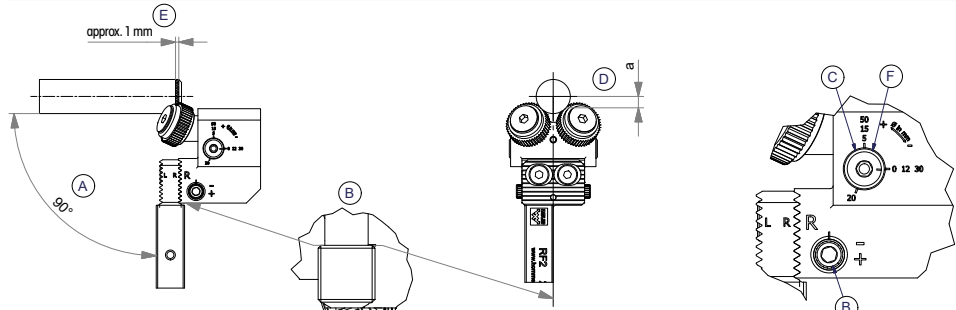
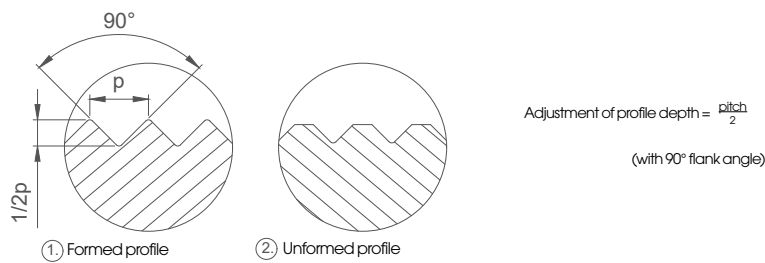

Fig. 4: 241 Swiss type turning lathe / Tool adjustment
Fig. 6: Different profile pattern
Produce a chamfer (30° – 45°) on the workpiece with a minimum width corresponding to half of the pitch of the knurling wheel on the start of the workpiece or after a plunge cut (cf. Fig. 4 + 5). The concentricity of the workpiece must be max. 0.03 mm.
The following points correspond to the processes in Figures 4 and 5 and must be followed for optimal adjustment and use of the tool.
Clamp the tool at an angle of 90° to the workpiece and align (Fig. 4 + 5, ref. A)
In the condition as delivered, the centre height is at the upper edge of the shank (Fig. 1, pos. 1; Fig. 2, pos. 1). However, if this must be adjusted, slightly loosen both locking screws (Fig. 1, pos. 13; Fig. 2, pos. 14) of the cutting head. Then adjust the centre height of the knurling head by turning the spindle (Fig. 1, pos. 6; Fig. 2, pos. 8). Observe the mark for the respective shank dimensions (Fig. 4+5, ref. B). Then tighten the locking screws.
241 Swiss type turning lathe (Fig. 4):
- The clearance angle and the diameter to be machine can be increased by turning the spindle (Fig. 1, pos. 5) anticlockwise. In the process, the scale value corresponds to the adjusted diameter. (Example: 320° rotation anticlockwise = adjusted Ø 3 mm; 720° rotation clockwise = adjusted Ø 12 mm, based on the zero position) (Fig. 4, ref. C)
The following formula can be used as a rough guideline for the approach position of the tool in X-direction. This depends on the workpiece diameter to be machined and knurling wheels which are used (Fig. 4+5, ref. D).
The profile depth is set approx. 1 mm behind the chamfer of the workpiece in the X direction and corresponds to approximately the half pitch p (with 90° flank angle). (cf. Fig. 4+5, ref. E). After reaching the limit depth, the dwell time of the tool should be 3-10 revolutions of the workpiece. Then move in the Z-direction until the desired knurl width is achieved. Disengage the tool while the spindle is rotating. The correct profile depth has been reached when the profile is knurled completely (Fig. 6, ref. 1). A new setting takes place when the profile is not completely formed (Fig. 6, ref. 2). Re-adjustment in the profile is possible, because the knurling wheels catch in the existing profile. For guideline values for feed rate and cutting speed, please refer to Table 6, chapter 7.